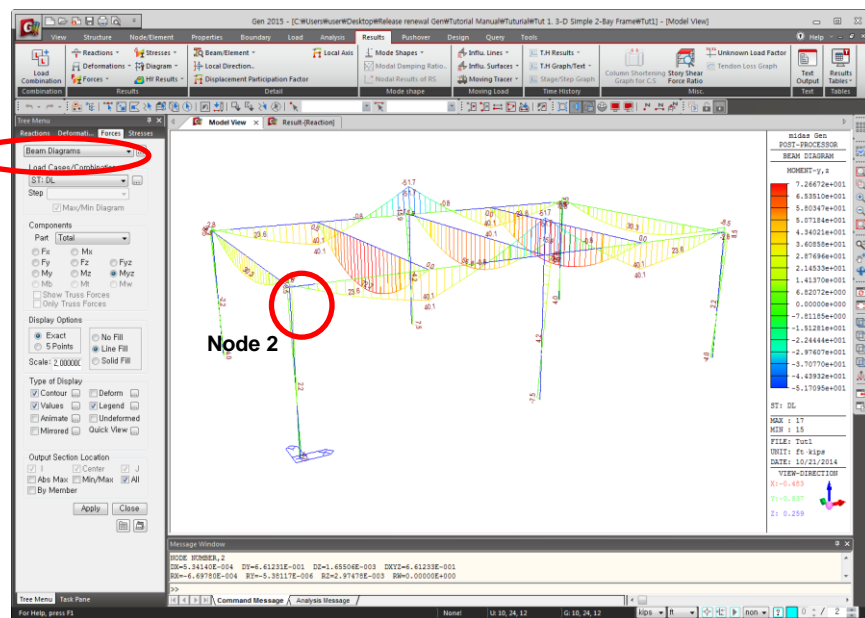

Figure 1.32 Bending Moment Diagram
1. Select **Beam Diagrams** from the functions selection field (Fig.1.32–①).
4. Magnify partially node **2** in Fig.1.32 by  **Zoom Window**.